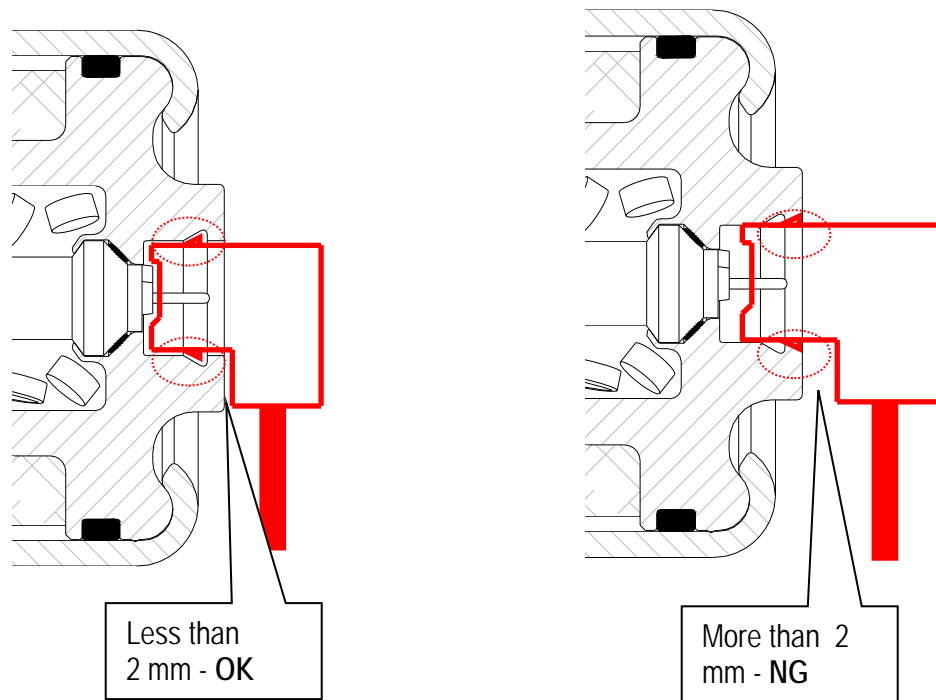

Figure 44
- Make sure the inflator connectors are fully engaged / seated (see Figure 44).